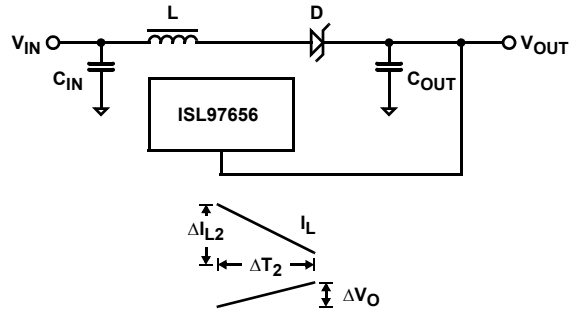

FIGURE 15. BOOST CONVERTER - CYCLE 2, POWER SWITCH OPEN
During the second cycle, the power FET turns off and the Schottky diode is forward biased, (see Figure 15). The energy stored in the inductor is supplied to the output. This energy is used to charge the output capacitor and supply output current. In this cycle switching node (LX) is held to VOUT + Schottky diode drop. Voltage drop across the inductor is VIN - VOUT (ignoring diode drop across Schottky diode). The change in inductor current during the second cycle is shown in Equation 2: